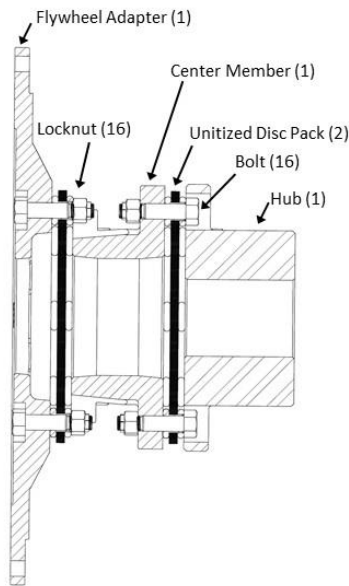

Figure 2: GC Model
- d) Move the equipment to be connected into position. Set the gap to the required distance between shaft ends, DBSE dimension. See Fig. 2 or 3 and Table 2
- c) As a guide, the "DBSE" dimensions are given for GC and GA couplings, along with dimensional tolerances recommended for initial installation. Additional capacity is available to compensate for thermal and structural movement. Maximum axial capacity values for these couplings are also given. See Table 2 and Figures 2 & 3.
With the coupling in good alignment, the bolts will fit through the holes in the flanges and the disc packs more easily. See Figures 2 and 3.
- i) On a workbench, or floor, assemble one unitized disc pack to the center member and flywheel adapter, installing all bolts as shown in Figure 2.